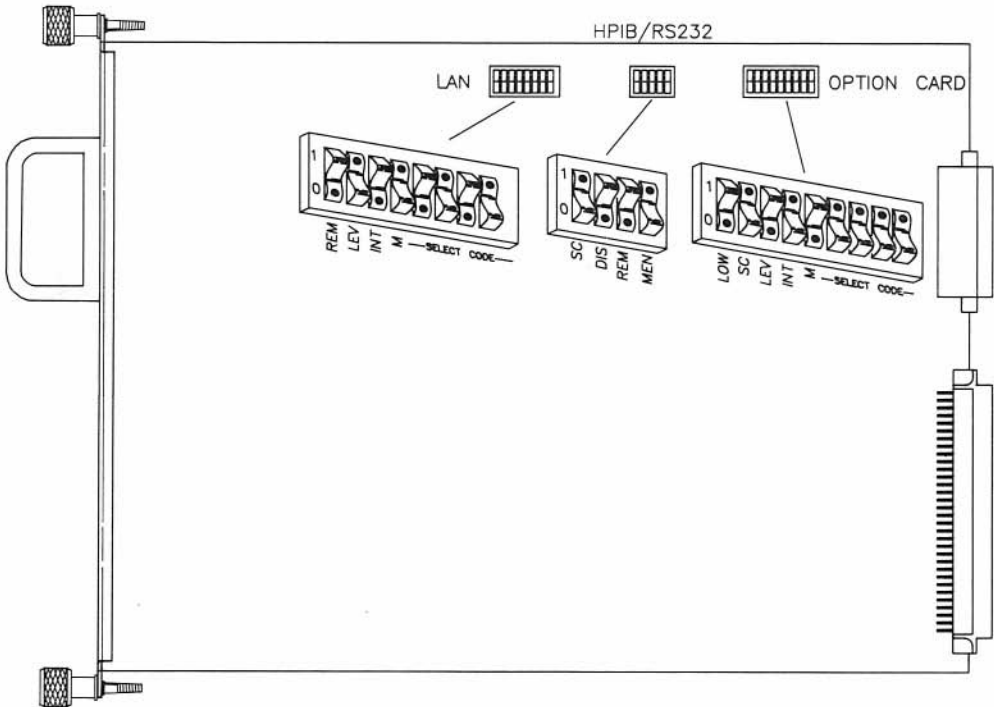

Figure 1. Human (System) Interface board switches
- a. Find the group of four switches labeled **HPIB/RS232**. The switch labeled **SC** in this group is the System Controller switch (see figure 1).
- b. If connecting two computers together via HP-IB, only one of them may be set to system controller. To change this interface to non-system controller, move the System Controller switch to the **0** position (the opposite of that shown in figure 1).
- a. Find the group of four switches labeled **HPIB/RS232**. The switch labeled **DIS** in this group is the RS-232 Disable switch (see figure 1).
- b. To disable the RS-232C Serial interface, move the **DIS** switch to the **1** position (the opposite of that shown in figure 1).
If you later want to enable the RS-232C Serial interface, move the switch back to the **0** position as shown in figure 1.
- a. Find the group of four switches labeled **HPIB/RS232**. The switch labeled **REM** in this group is the Remote Terminal Enable switch (see figure 1).
- If you are connecting a terminal to this interface and want this terminal to be the system console, set this switch to **1**, which is the *opposite* of that shown in figure 1.
- If you are connecting a terminal to this interface but **do not** want this terminal to be the system console, or if you are connecting any other device, set this switch to **0** as shown in figure 1.
- a. Find the group of four switches labeled **HPIB/RS232**. The switch labeled **MEN** in this group is the Modem Lines Enable switch (see figure 1).
- If you intend to connect an HP 2601A printer, an HP 2686A *Laserjet* printer, an HP 92205A/C Hayes *Smartmodem*, or a *uucp*, set this switch to **1** as shown in figure 1.
- If you intend to connect a terminal or the HP 39800/01A bar code reader, set this switch to **0**, which is the *opposite* of that shown in figure 1.
- Find the group of eight switches labeled **LAN**. The five switches labeled **M** (for Most-significant bit) and **SELECT CODE** in this group are the LAN Select Code switches (see figure 1).
- a. Find the group of eight switches labeled **LAN**. The two switches labeled **INT** and **LEV** in this group are the LAN Interrupt Level switches (see figure 1).
- Find the group of nine switches labeled **OPTION CARD**. The five switches labeled **M** (for Most-significant bit) and **SELECT CODE** in this group are the Select Code switches (see figure 1).
- a. Find the group of nine switches labeled **OPTION CARD**. The switch labeled **SC** in this group is the System Controller switch (see figure 1).
- b. If connecting two computers, only one of them may be set to system controller. To change this interface to non-system controller, change the System Controller switch to **0** (the opposite of that shown in figure 1).
The Low/High Speed switch is preset to **0**, “high speed,” as shown in figure 1. This setting is appropriate for most applications. If you want to change this setting, continue with step 12; otherwise skip to step 13.
- a. Find the set of nine switches labeled **OPTION CARD**. The switch labeled **LOW** in this group is the Low/High Speed switch (see figure 1).
- To set this switch to “low speed,” set the **LOW** switch to **1**, which is opposite of that shown in figure 1.
- To set this switch to “high speed,” set the **LOW** switch to **0** as shown in figure 1.